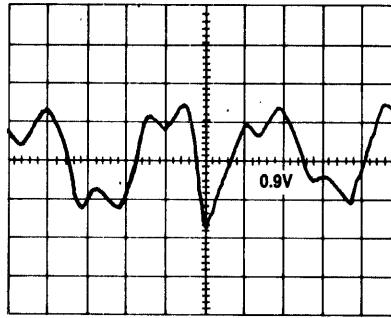

Figure 7-9 Read Amplifier Gain Adjustment
7.4.1 Read Amplifier Gain Adjust (R10) (Figure 7-9)
3. Verify that the waveform is $-9V$ below centerline as shown in figure 7-9.